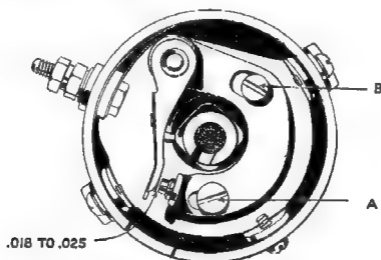

Fig. 30—Adjusting Distributor Breaker Points
The contact points on the Semi-Automatic Distributor are fixed in their mountings; and are controlled by an eccentric screw moving the mounting plate (Fig. 30.)
- 1st Turn the motor over until the cam is in the position shown in Fig. 30. The contact points are then open the maximum distance.